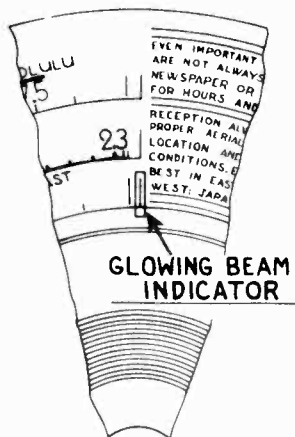
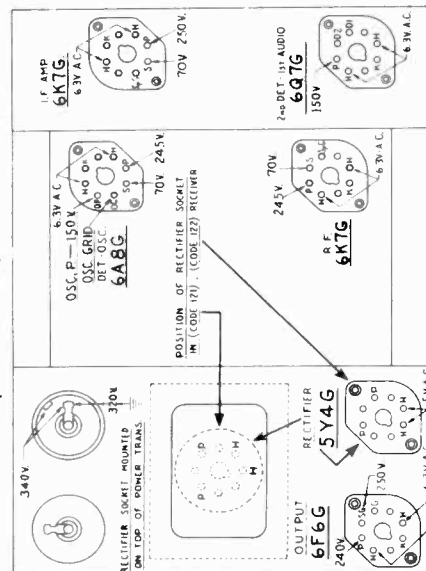

Fig. 2—Dial Calibration
Fig. 1. Socket Voltages Measured from Socket Contact to Ground Underside of Chassis View
Philco Fibre Handle Screw-Driver, No. 27-7059 and Variable Condenser Part No. 45-2325 complete the necessary equipment for these adjustments. The locations of the various compensators are shown in Figs. 2 and 3.
3. Adjust compensators (30S), (30P), (28S), and (28P) for maximum output, see Fig. 2.
**Dial Calibration**—In order to adjust this receiver correctly, the dial must be aligned to track properly with the tuning condenser. To do this, rotate the tuning condenser control to the extreme counter-clockwise position (maximum capacity). Loosen the screw of dial hub, then turn dial until the glowing indicator is centered on the first index line of dial scale (see Fig. 2). Now tighten the dial hub set screw in this position.
Fig. 1 shows the Voltage measurements taken from the bottom of the socket at each contact. In Fig. 2, the correct position of the dial indicator, for proper adjustment of the compensator condenser is shown. Fig. 3 and 4 are the locations of the I. F. and R. F. compensators respectively.